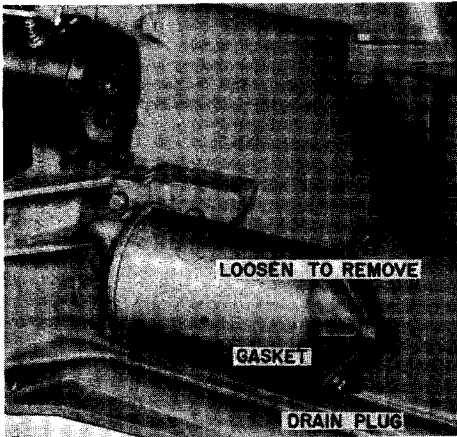

Figure 6
1. Remove the drain plug, Figure 6, if so equipped.
2. Loosen the hex head bolt on the filter shell until the shell and element can be lifted off the base together, Figure 6.
NOTE: If leakage is observed between the shell and bolt head, a new shell gasket must be installed, Figure 6.